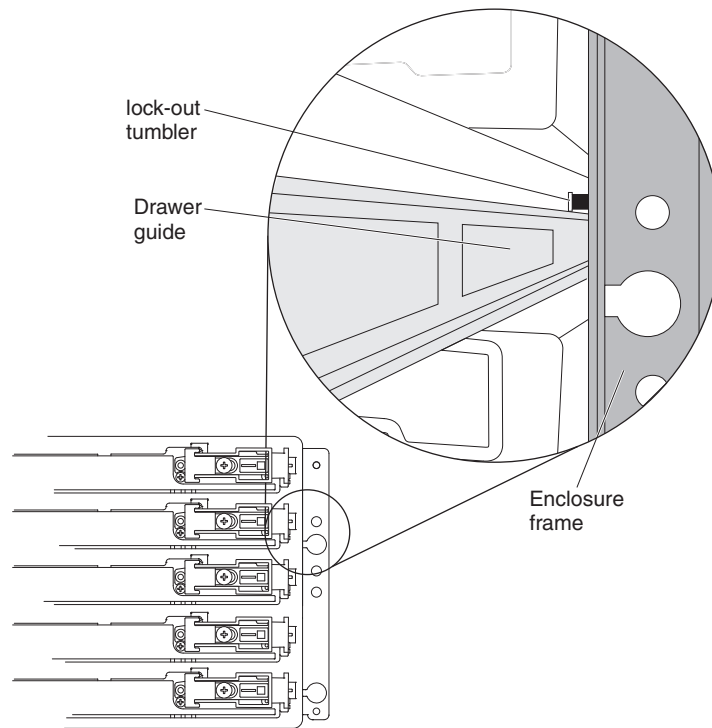

Figure 87. Lock-out tumbler located above the drawer guide
- a. At the front of the storage expansion enclosure, install the new drive drawer into the slot, making sure the lock-out tumbler is located on the top of the drawer guide. The lock-out tumbler is a small alignment piece that is attached to the frame. Figure 87 on page 137 shows the location of